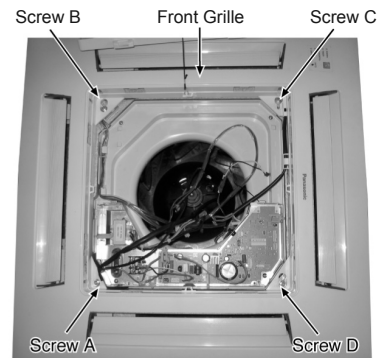

Fig. 5
- 5 Remove the Front Grille by removing the screw A and screws B, C & D half way open (Fig. 5).